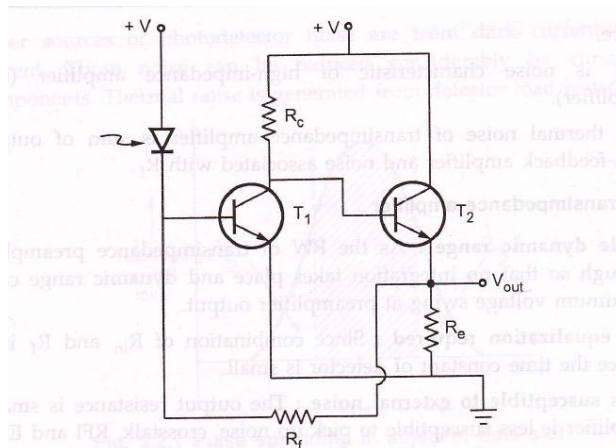

Fig. 5.1.7 CE/CC shunt feedback transimpedance receiver
- A transimpedance amplifier is a high-gain high-impedance amplifier with feedback resistor  $R_f$  Fig. 5.1.7 shows a simple CE/CC. Shunt feedback transimpedance receiver.